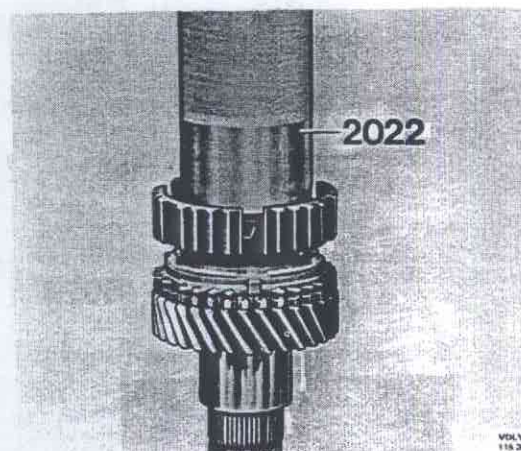

Fig. 43-82. Pressing on hub
3. Press on the hub with 2022, Fig. 43-82. Check that the cone lugs enter the hub. Fit the lock ring which gives minimum clearance. Lock rings are available in sizes 1.8, 1.9 and 2.0 mm (0.072, 0.076 and 0.079").